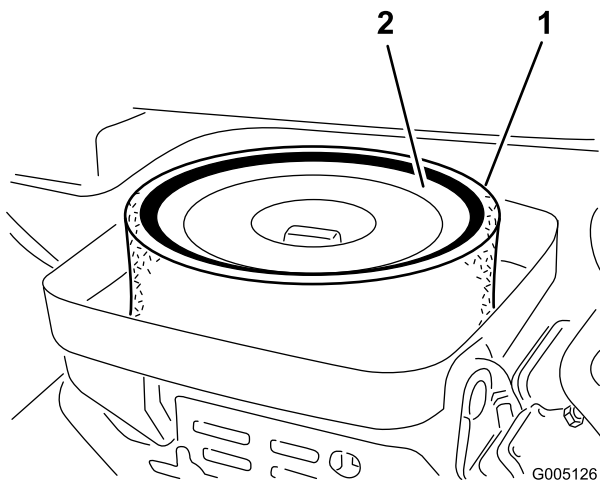

Figure 41
4. If the foam element is dirty, remove it from the paper element (Figure 41). Clean it thoroughly, as follows: